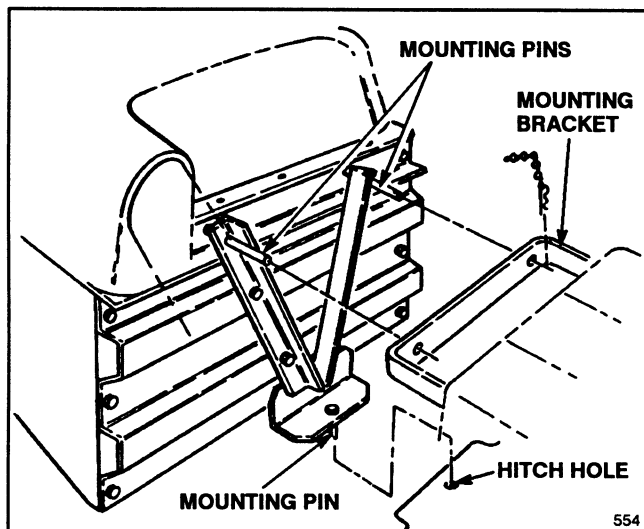

Figure 3
3. Insert grass catcher mounting pin into mounting hole in hitch (Fig. 3).
4. Rotate grass catcher up so mounting pins line up with mounting holes in rider mounting bracket. Push pins through holes and retain with hairpin cotters (Fig. 3).